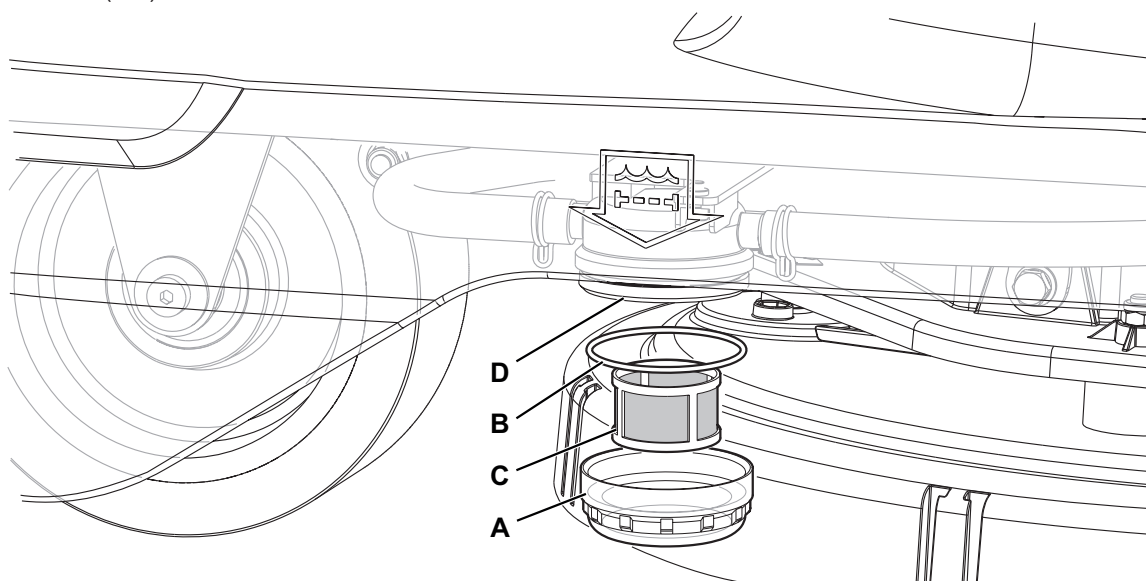

Figure 12
2. Ensure that the machine is off and the operator key (41) has been removed.
3. Close the washing water valve (9). The valve is closed when it is in position (9-B) and it is open when it is in position (9-A).
4. Remove the transparent cover (A, Fig. 12), retrieve the gasket (B), then remove the filter strainer (C). Wash and rinse them with clean water, then refit them carefully onto the filter support (D).